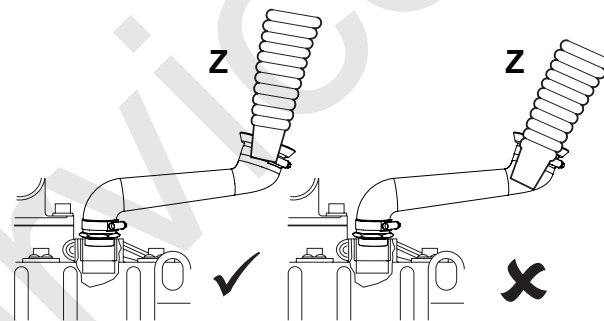

Fig 83.
Do not insert the container neck **Z** completely into the remote filler hole. → Fig 83. (□ 223).
- 4 Fill the engine with new oil through the filler. DO NOT insert the container neck Z completely into the filler hole. → Fig 83. \(□ 223\).